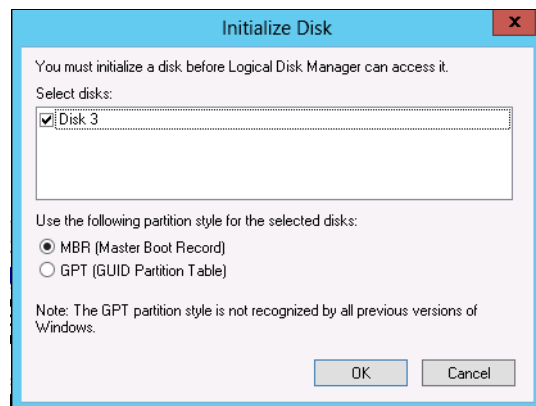

Figure 12-9 Initialize continued
9. Right-click the right pane and click **OK** (Figure 12-9).